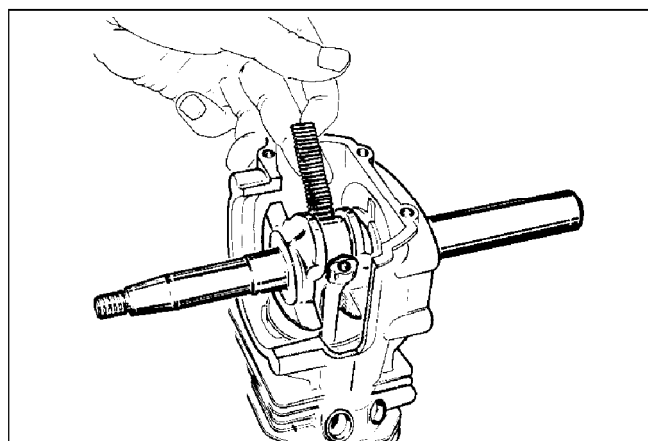

Fig. 13
- Place the cylinder-piston-conrod-crankshaft block on a flat surface (Fig 13) and turn piston to BDC.